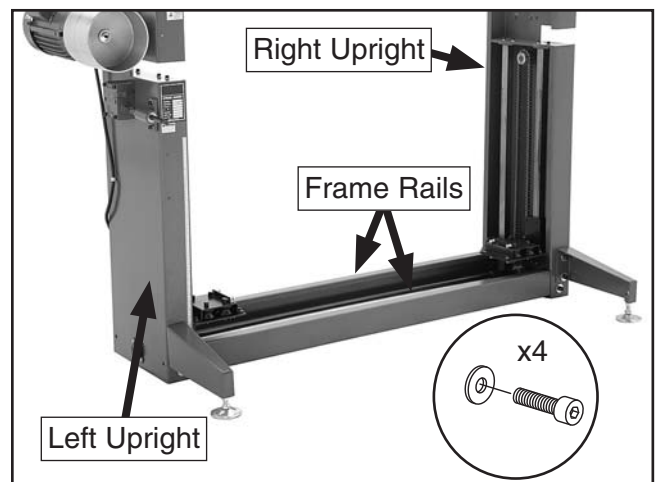

Figure 13. Third cross brace.
4. Lift the left upright so it stands vertically with the frame rails against the floor, and attach the right upright with the remaining (4) $\frac{3}{8}$ "-16 x $\frac{3}{4}$ " cap screws and (4) $\frac{3}{8}$ " flat washers (**Figure 13**).